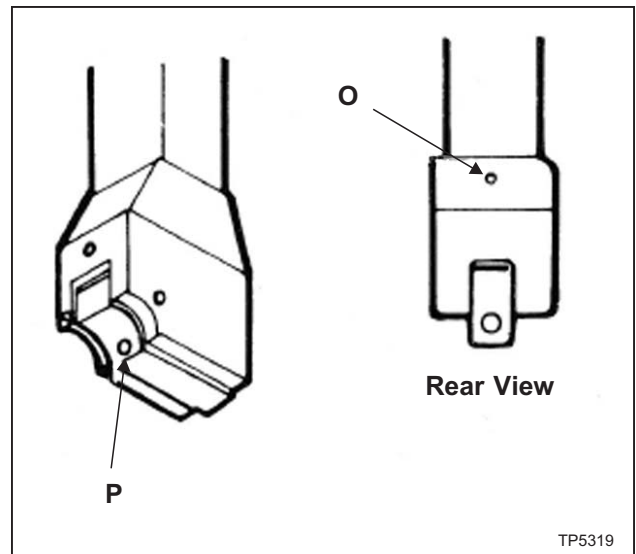

Figure 2.36 - Swiveling E-Head Clapper Box
1. Loosen the two set screws "O", Figure 2.36.